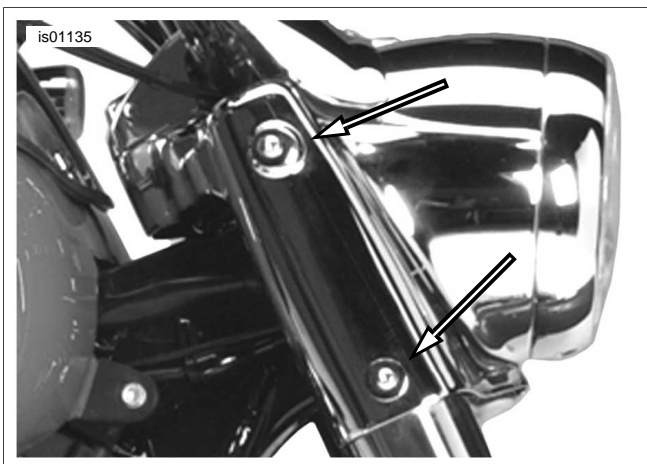

Figure 2. Typical Mounting Screw Locations (FLHRS)
5. See Figure 2. *For FLHRS models:* Remove and discard original mounting screws (1). Repeat for other side. Remove handlebar mounted turn signals, acorn nuts, internal tooth washers, and mounting blocks from handlebars. Install original acorn nuts and internal tooth washers to secure mirrors.